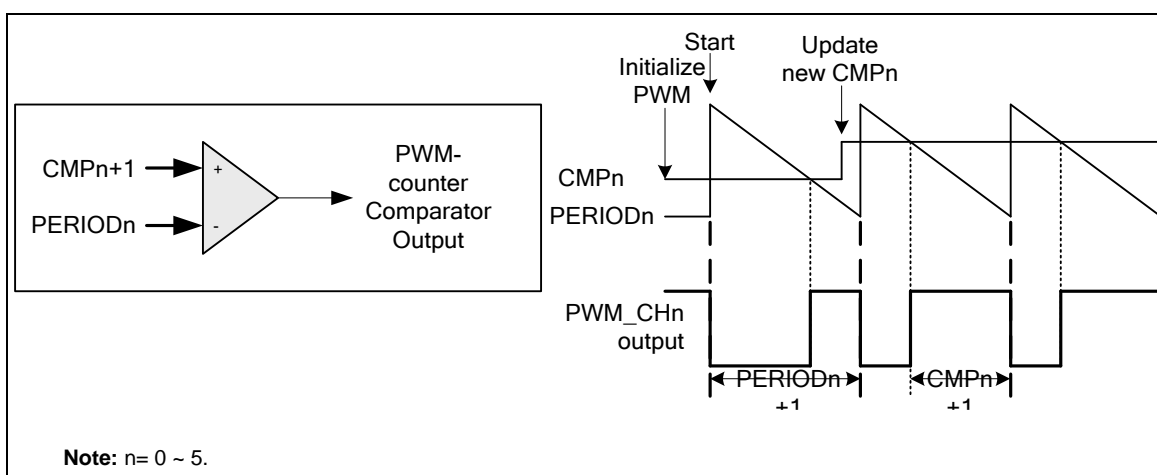

Figure 6.7-10 Legend of Internal Comparator Output of PWM Counter
6.7-11. The pulse width modulation follows the formula below and the legend of PWM counter Comparator is shown in Figure 6.7-10. Note that the corresponding GPIO pins must be configured as PWM function (enable PWM\_POEN) for the corresponding PWM channel.